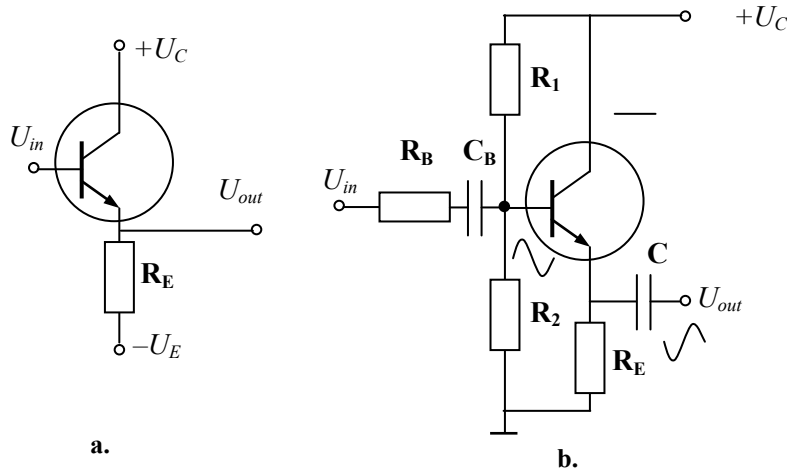

Fig. 2.13
**Emitter followers.** In the emitter followers, the load is connected to the emitter as shown in Fig. 2.13,a. Typically, the voltage gain of the emitter follower is ultra-stable and close to unity, also the current gain is much higher. Both of them are defined as
Fig. 2.13,b shows another design of the emitter follower. There, the base ac voltage produces an emitter ac current. Thanks to the limiting resistor  $R_B$  and the coupling capacitor  $C_B$ , an ac voltage appears at the emitter. The biasing is arranged with the help of  $R_1$  and  $R_2$ . Because of the output capacitor  $C$ , this voltage is coupled to the load. Since the emitter is no longer at ac ground, the ac voltage across the emitter is approximately equal to the input voltage at the base. The reason the circuit is called an emitter follower is that the output voltage follows the input voltage.